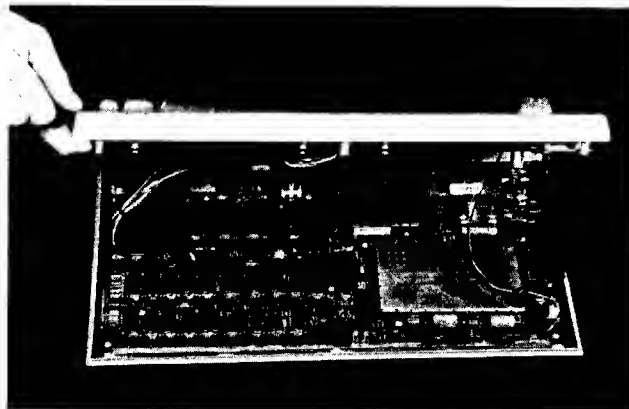

Fig. A-3. Lift the top front of the case, exposing the keyboard cable and Power-ON light.
7. Lift the top of the case from the front—it's hinged in back—to expose the keyboard cable plugged into the keyboard connector socket on the motherboard, and the Power-ON light cable. (Refer to Fig. A-3.)